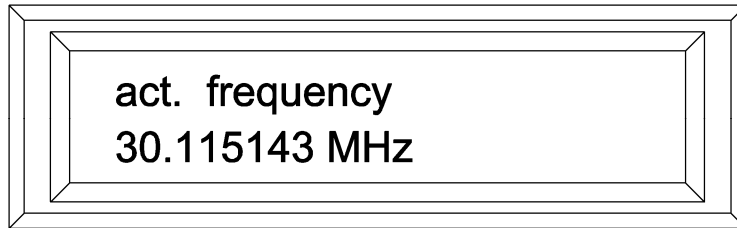

Figure 3.15. Displaying the actual receive frequency.
- Step 3.** Hit the “■” select button and the actual frequency is shown (*figure 3.15*).
- Step 3.** Hit the “■” button and the actual frequency is shown (*figure 3.15*).
- Step 2.** Hit the “■” button and the actual frequency is shown (*figure 3.15*).